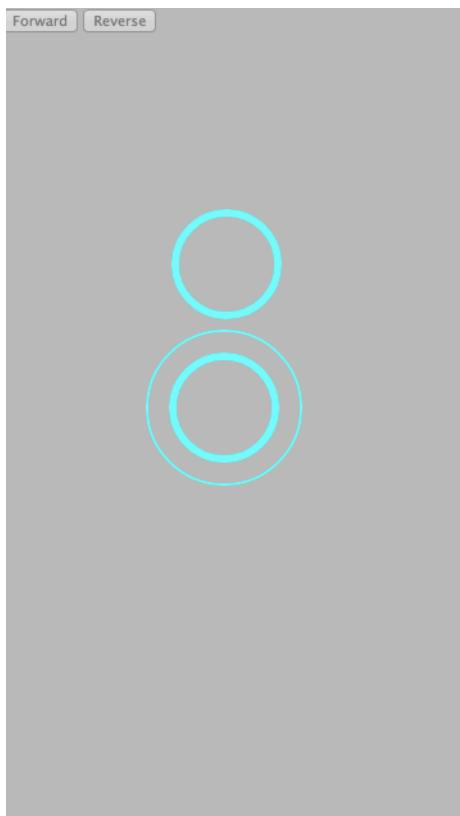

Figure 4-7 Web app virtual joystick
3. You should see a not-so-exciting gray page (Figure 4-7). Tap and drag upward anywhere on the screen and a virtual joystick should appear. Clicking with your mouse on your laptop should have the same effect.